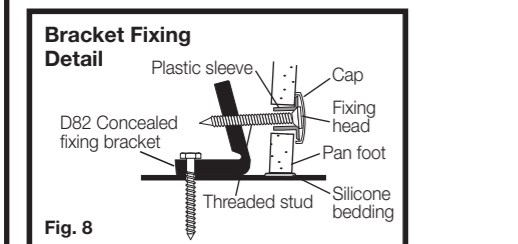

Fig. 8
- 7- Connect pan to connector and locate plastic fixing sleeve into holes in the pan. Fit screw into the bracket and tighten to bed pan to floor while ensuring level, as detailed in Fig. 8. **IMPORTANT-DO NOT OVER TIGHTEN, AS THIS MAY CRACK THE PAN FOOT.** Snap on plastic cap, as detailed in Fig. 8.